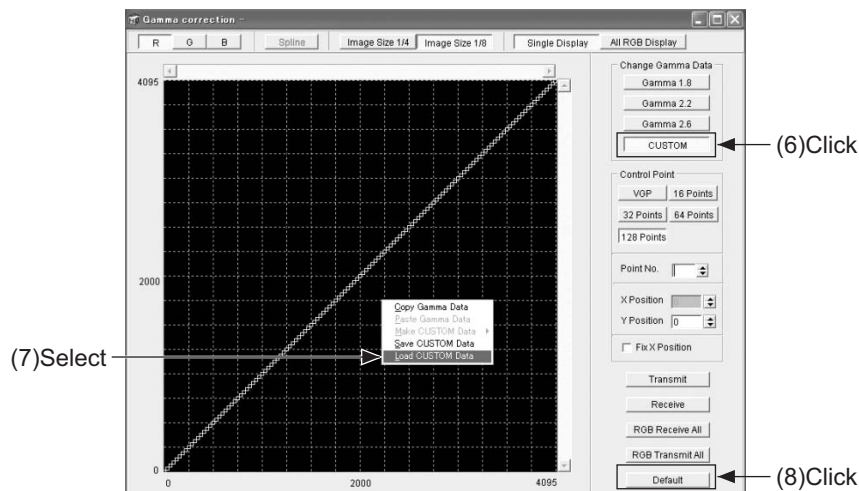

Fig.2
- (4) Open the \dot{E}_j calculation sheet in the GAMMA adjustment file (GAMMAOFF_1.0_without color compensation). Click [CREATE FILE] near the BK16 cell and save it with an appropriate file name.
- (5) Connect the PSA and click [Gamma] on the PSA screen.
- (6) Click [CUSTOM] on the Gamma correction screen. Refer to Fig.2.
- (7) Right-click on the Gamma curve in the [Gamma Correction] screen to select [Load CUSTOM Data] and then select the file saved in step 3).
- (8) Click [RGB Transmit All] on the [Gamma correction] screen. Refer to Fig.2.